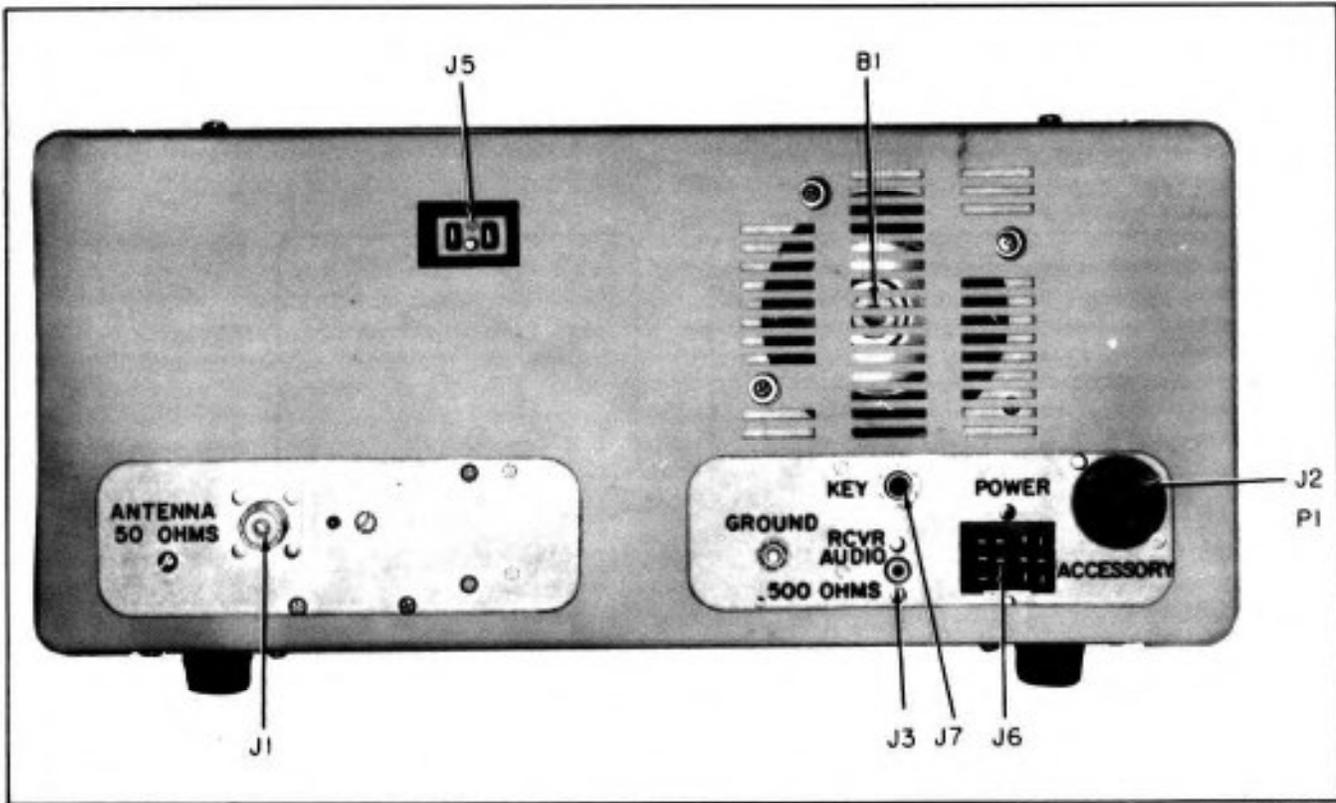

Figure 3. Model SR-2000 Transceiver, Rear View.
C. Interconnect the **GROUND** studs of the transceiver and power supply with the lugged ground braid supplied. Clamp the lugs of the braid between the flat washers of the ground studs and tighten the stud nuts securely. This braided ground strap acts as a safety bond between the power supply and transceiver units since it backs up the ground wire in the low voltage cable. Reference should be made to figures 3, 4, and 5 when interconnecting the two units.